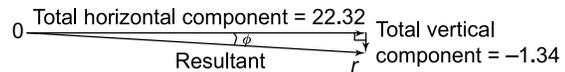

Figure 4.25
- (v) Sketch the total horizontal and vertical components as shown in Figure 4.25. The resultant of the two components is given by length $0r$ and, by Pythagoras' theorem,